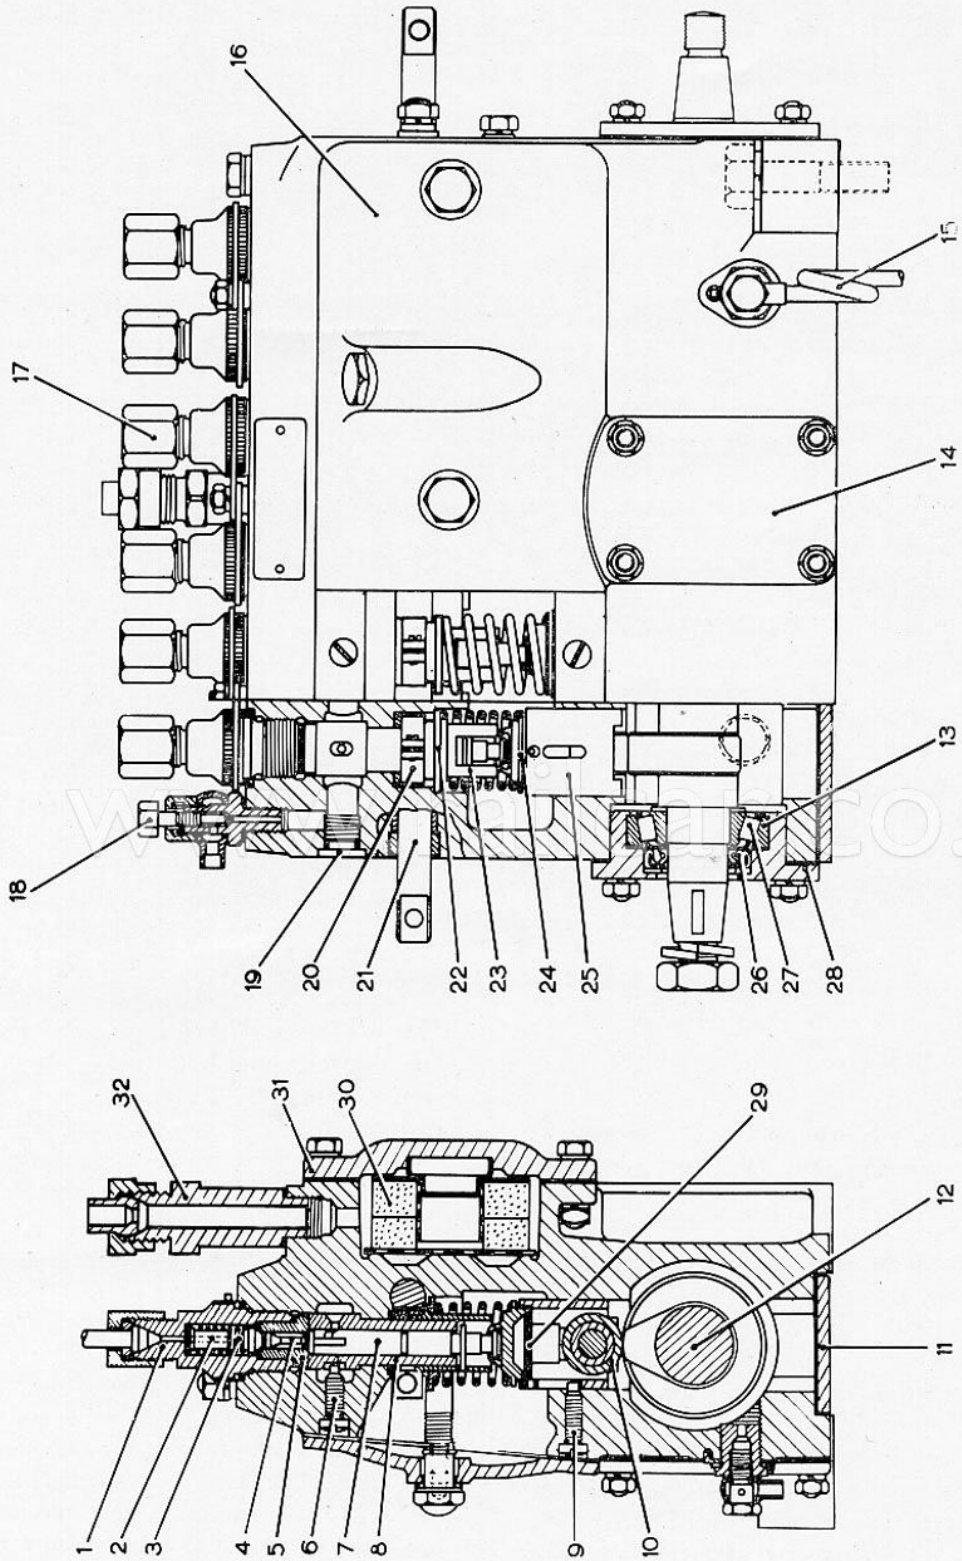

FIG. 1. SECTIONED VIEWS OF TYPICAL 'NN' TYPE PUMP
Except where otherwise stated, all reference numbers quoted in this section refer to Fig. 1, which is an annotated sectional view of the 'NN' type fuel pump.
Each element is comprised of a plunger and a plunger barrel lapped together to form a mated assembly. The parts are not interchangeable and damage to either will necessitate the renewal of the complete element. The upper portion of the plunger element (8) Fig. 1 is in the form of a shoulder which seats against a corresponding shoulder in the pump housing. It is prevented from turning by the locking screw (6) which passes through the pump housing and engages in the groove machined on the barrel surface. The upper portion of the barrel, located within the common fuel chamber, is provided with two oppositely drilled holes, permitting the fuel to flow from the fuel chamber into the element. The countersunk hole is known as the inlet port and the other the spill port. The upper surface of the barrel has been ground flat and square to the axis to produce an oil-tight jointing face against the base of the delivery valve seating (5).